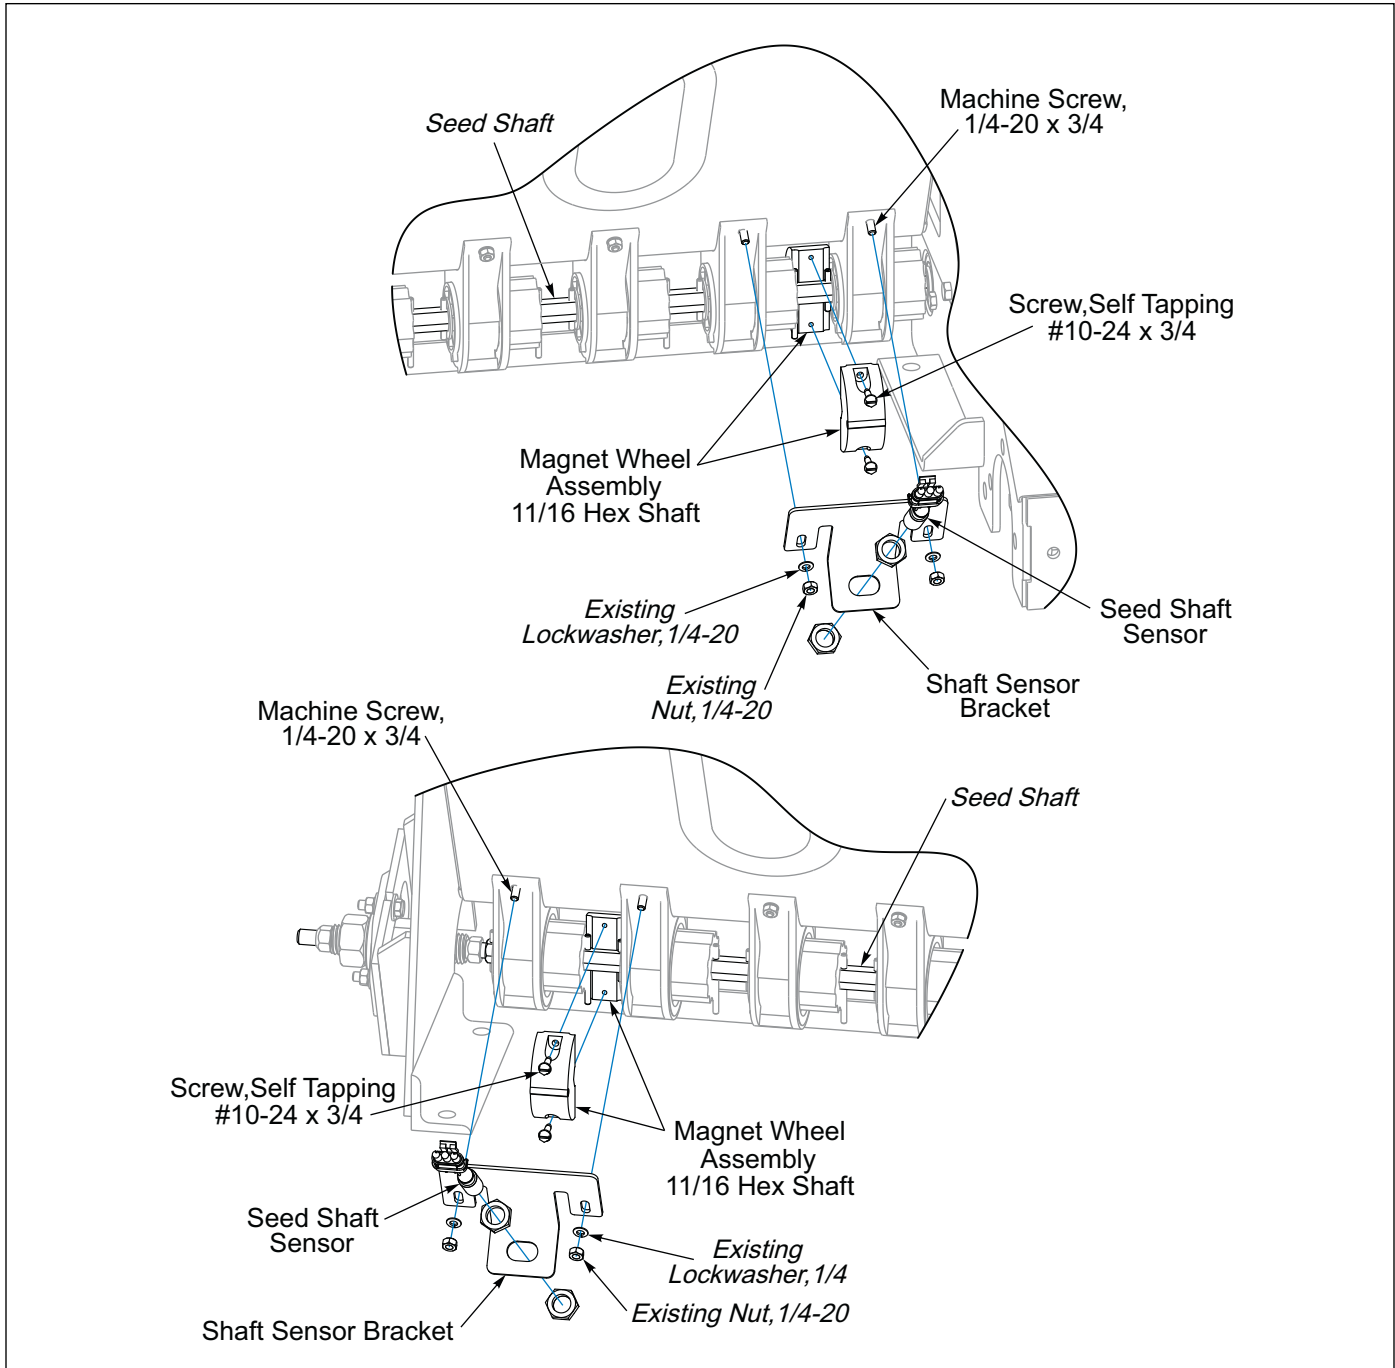

Figure 2-26: Seed Shaft Sensor Brackets
6. Insert Seed Shaft Sensor into Shaft Sensor Bracket Slot. **See Figure 2-26.**